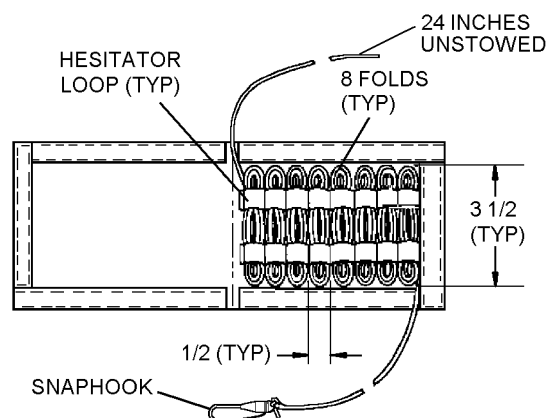

Figure 11-27. Stowed Painter Line
11. Stow painter line in painter line pouch by forming eight 3 1/2-inch bights in line and inserting each bight in one of the eight hesitator loops provided. Leave 24 inches of unstowed painter line at each end of the pouch. (See figure 11-27.) Close pouch; then secure with hook and pile tape provided.